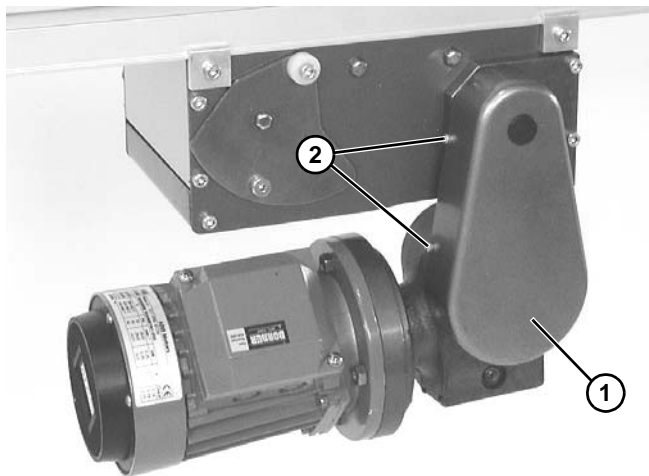

Figure 12
9. Install cover (**Figure 12, item 1**) with four (4) screws (**Figure 12, item 2**). Tighten screws to 35 in-lb (4 Nm).
1. Remove four (4) screws (**Figure 12, item 2**) and remove cover (**Figure 12, item 1**).
4. Install cover (**Figure 12, item 1**) with four (4) screws (**Figure 12, item 2**). Tighten screws to 35 in-lb (4 Nm).
6. Install cover (**Figure 12, item 1**) with four (4) screws (**Figure 12, item 2**). Tighten screws to 35 in-lb (4 Nm).